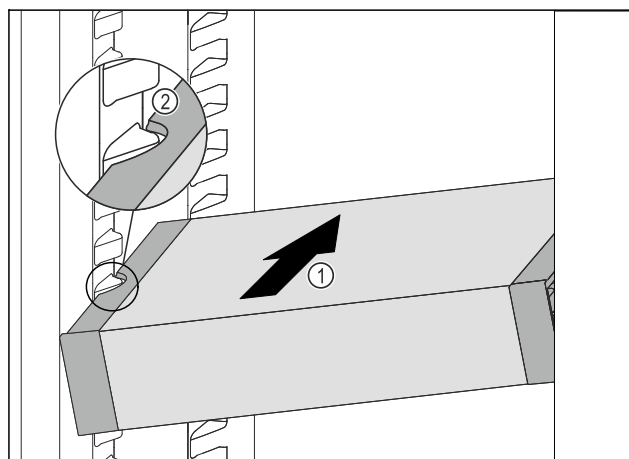

Fig. 114
- Insert the VarioSafe into the refrigerator compartment at an angle Fig. 114 (1) until the recesses in the side panel Fig. 114 (2) of the VarioSafe are at the level of the support rib in the refrigerator compartment.